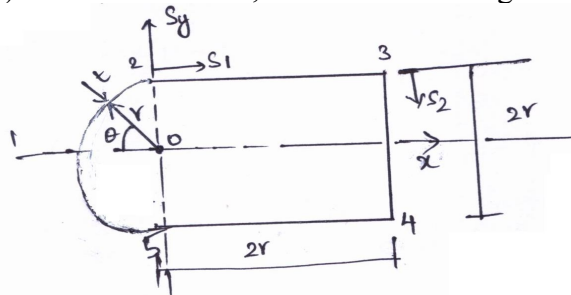

Fig. Q4 (a)
- 4 a. Determine the shear flow distribution in the walls of the thin walled closed section beam as shown in Fig. Q4 (a) the wall thickness, t is constant throughout. (10 Marks)